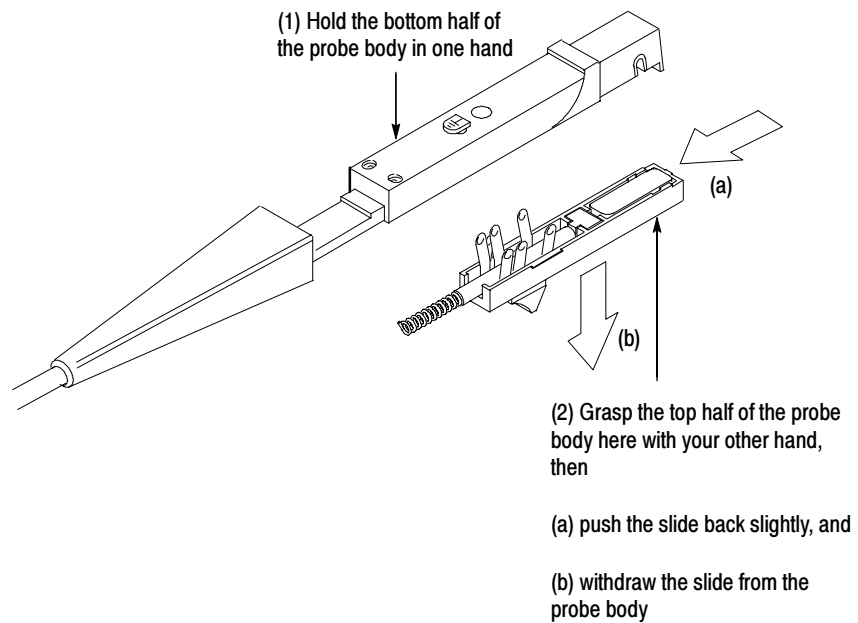

Figure 14: Removing the probe slide
5. Turn the probe upside down, push the slide back slightly, and remove the slide (see Figure 14).